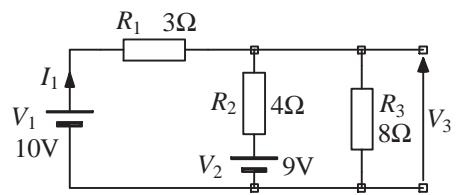

Figure 2
- 2 Analyse figure 2 using loop analysis and superposition and hence evaluate I_1 and V_3 . Calculate the Norton equivalent circuit components that will represent figure 2. What value of V_2 would make $I_1 = 0$? (0.706A, 7.88V, $I_N = 5.58$, $R_N = 1.41\Omega$, 15V)